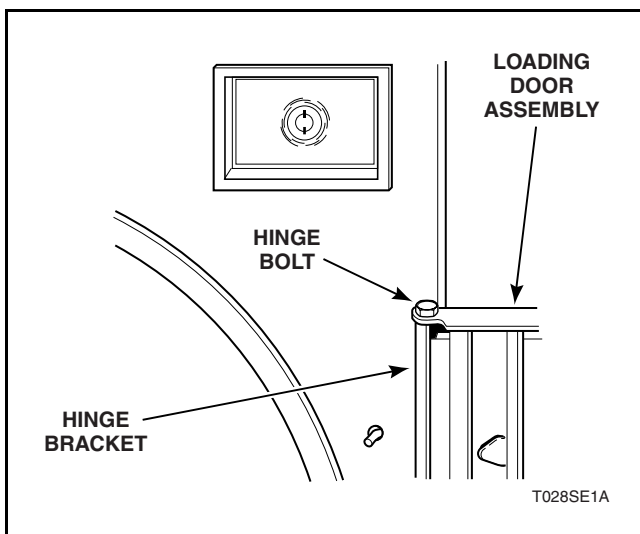

Figure 21
Refer to *Figure 21*.
- While supporting door, remove upper hinge bolt holding door to hinge bracket. Refer to *Figure 21*.
- Open loading door, support door and remove upper hinge bolt holding door to hinge bracket. Refer to *Figure 21*.
- Open loading door, support door and remove upper hinge bolt holding door to hinge bracket, *Figure 21*.